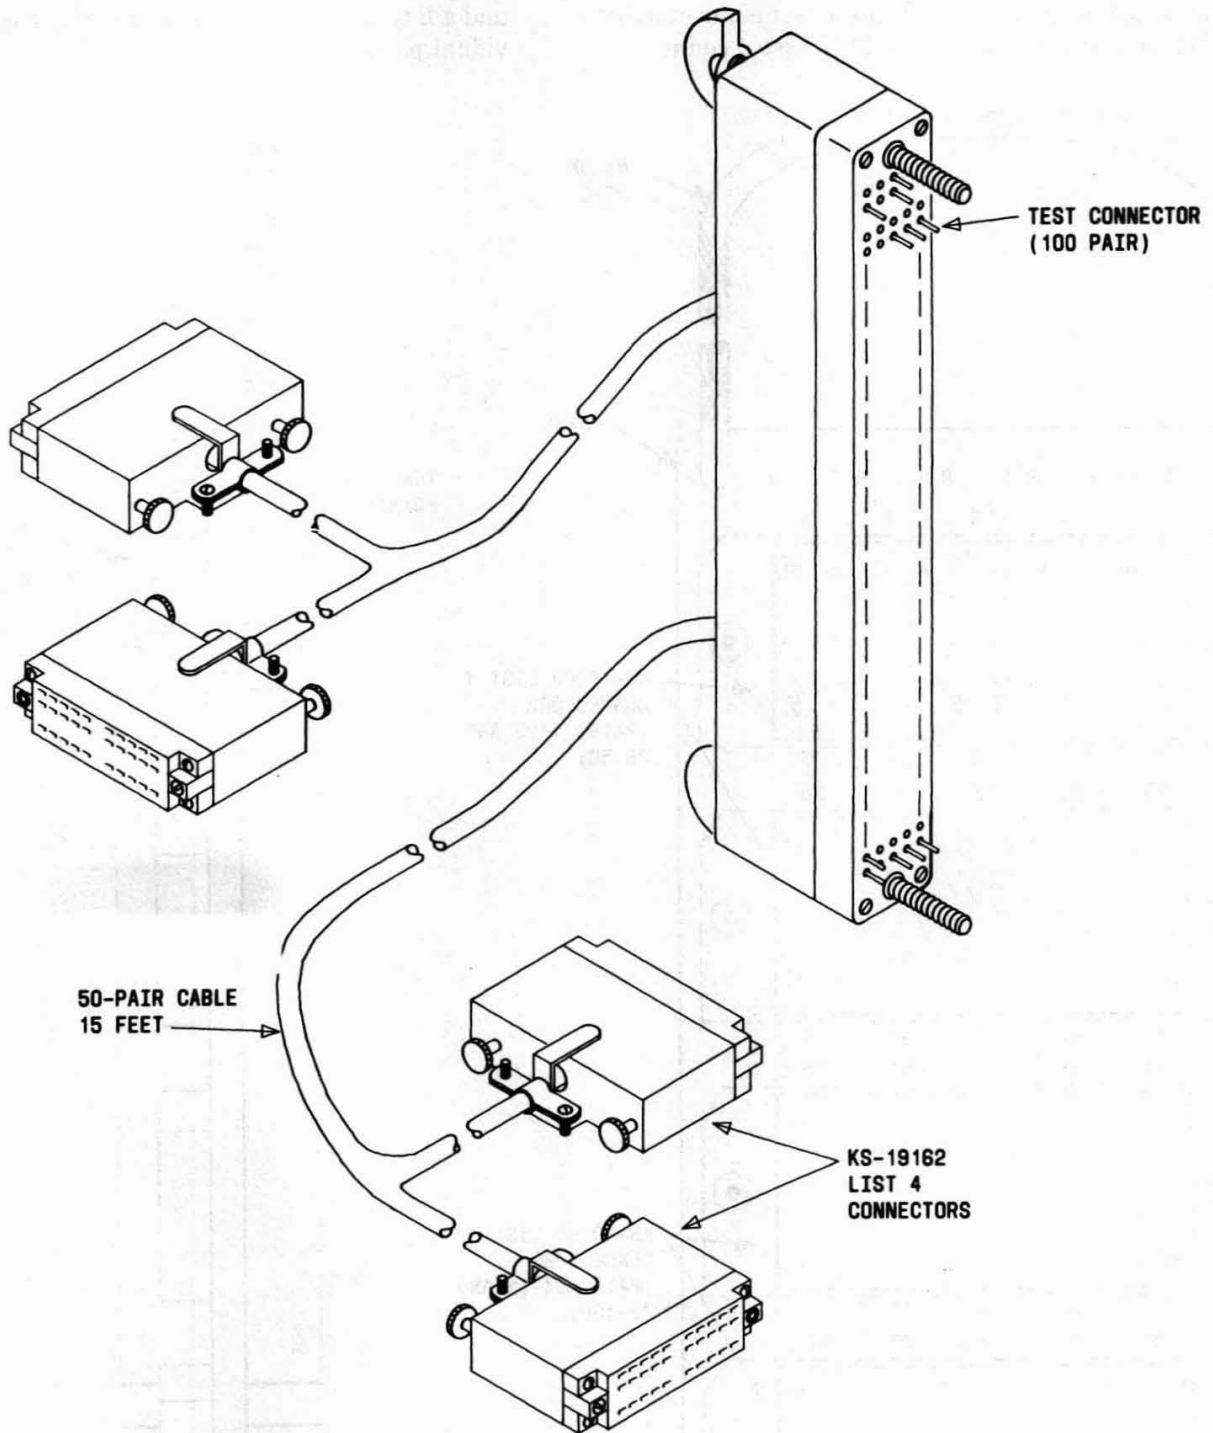

Fig. 12—T Test Connector
2.08 The *T test connector* (AT-8987), shown in Fig. 12, consists of a two-piece, plastic-molded body in which 200 spring-loaded contacts are housed and connected internally to two 50-pair sheathed cables. Each 15-foot long test cord divides into two 25-pair branches which terminate on KS-19162 List 4 connectors. The T test connector mounts on 310-type connectors.